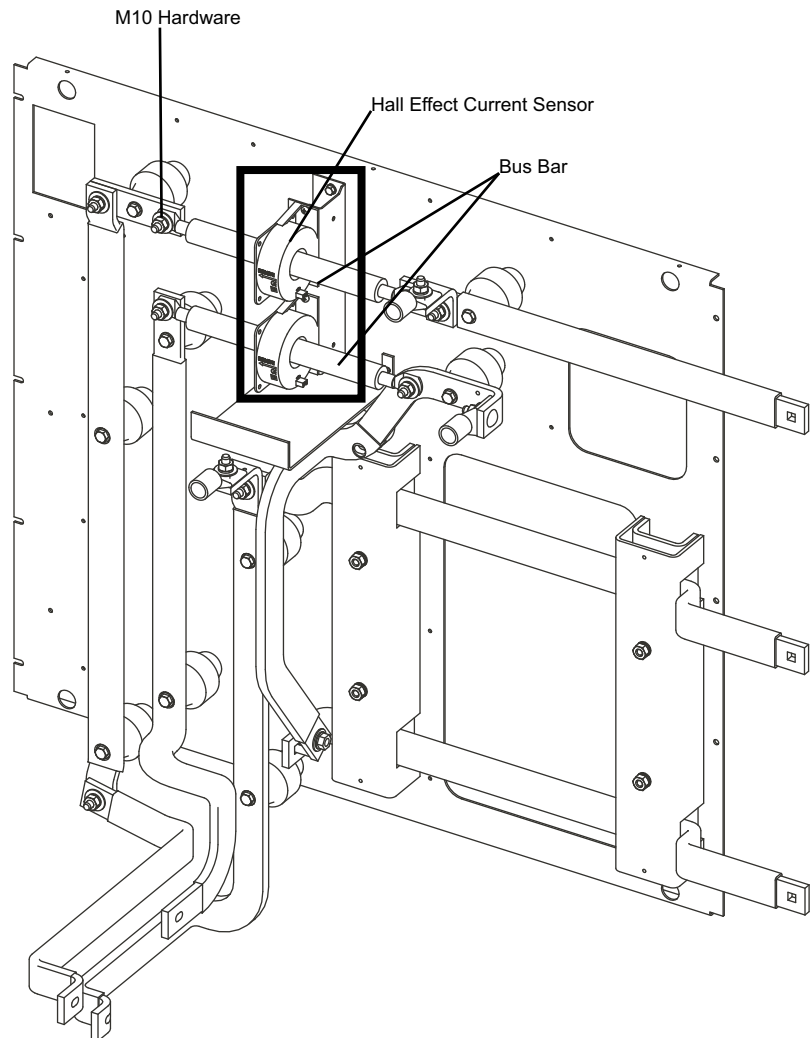

Figure 25 - Hall Effect Current Sensor located within cabinet
6. Insert the new sensor. Orient the arrows as shown in Figure 25.